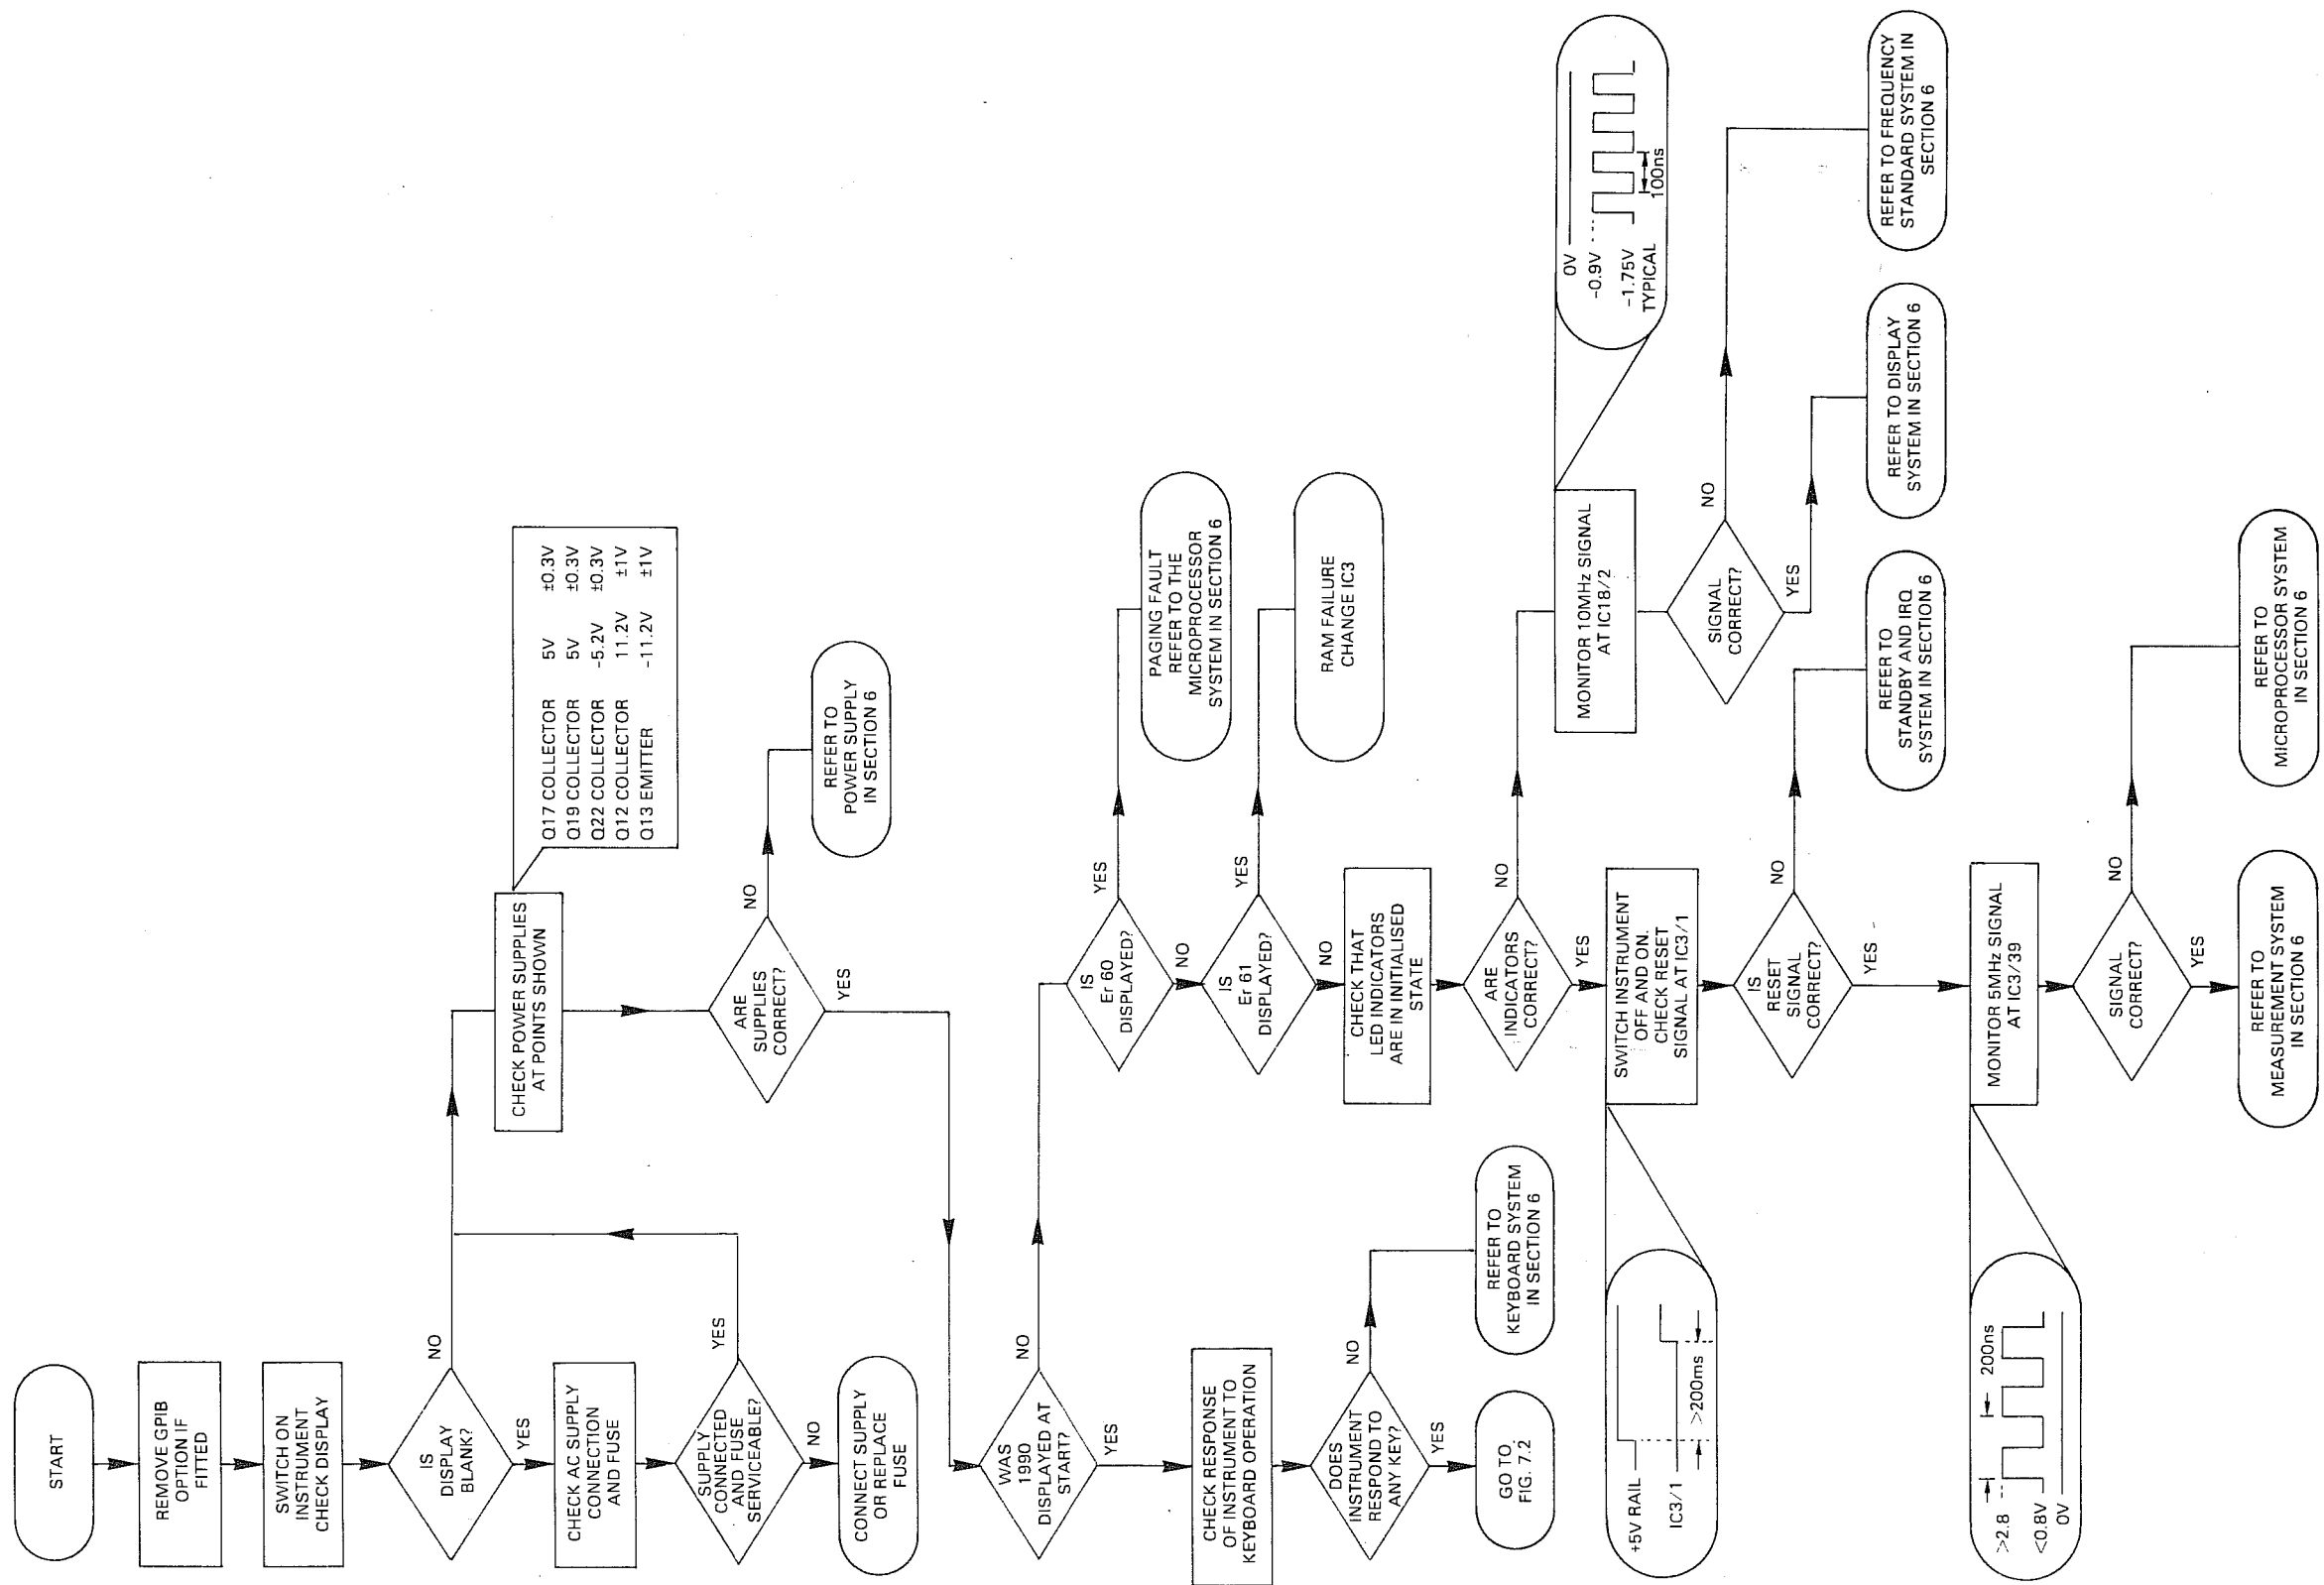

Fig 7.1 Fault Finding Flowchart - Part 1
- 17 A guide to fault location is given in the flow charts of Fig 7.1 to Fig 7.8. The charts provide a logical procedure for localising the fault to an area of circuit. When using the charts it is essential to begin at the start point in Fig 7.1 or Fig 7.6 and act according to the results of each decision box met in turn. Starting part way through any chart is unlikely to lead to satisfactory fault location.